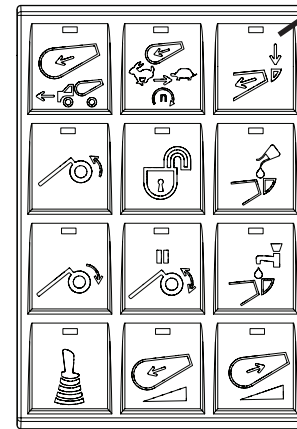

Figure 40
4. Press the LOAD button on the optional in-cab keypad (Figure 40, Item 1). The button indicator will illuminate. The LOAD icon will display on the drum control on the touch screen monitor.